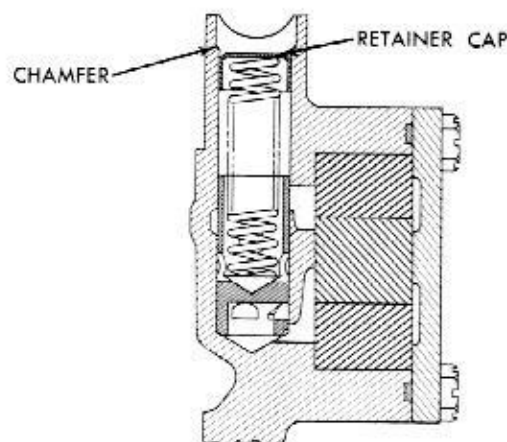

Fig. 53—Proper Retainer Cap Installation
(10) The relief valve spring has a free length of 2-1/32 to 2-3/64 inch and should test 16.2 to 17.2 lbs. when compressed to 1-11/32 inch. Discard spring that fails to meet specifications.
(11) Install the relief valve spring, a new retainer cap. (Spring seats inside retainer cap). Press retainer in housing so that top of retainer cap is within the relief valve bore diameter as shown in figure 53. Install cotter pin.
(12) If oil pressure is low, inspect for worn bearings, or look for other causes of possible loss of pressure.
- (1) Remove cotter pin, drill a 1/8 inch hole in the relief valve cap and insert a self-threading sheet metal screw into cap.
- (2) Clamp screw into a vise and while supporting oil pump, remove cap by tapping pump body using a soft hammer. Discard cap.
- (3) Remove spring and plunger.
- (4) Clean parts thoroughly. Inspect oil pump relief valve for scoring and free operation in its bore. Small scores may be removed with 400 grit wet or dry paper providing extreme care is used not to round off the sharp edge portion of the valve.
(5) The relief valve spring has a free length of 2-1/32 to 2-3/64 inch and should test 16.2 to 17.2 lbs. when compressed to 1-11/32 inch. Discard spring that do not meet specifications.
(6) Install the relief valve, spring and a new retainer cap. (Spring seats inside retainer cap). Press retainer in housing so that top of retainer cap is within the relief valve bore diameter as shown in Figure 53. Install cotter pin.